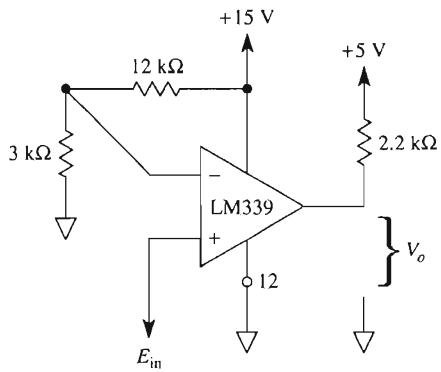

FIGURE P2-16
- 2-16. In Fig. P2-16, E_{in} is a triangle wave. The amplitude is -5 V to $+5 \text{ V}$ and the frequency is 100 Hz. Sketch accurately the graphs of (a) V_o vs. E_{in} ; (b) V_o vs. t .